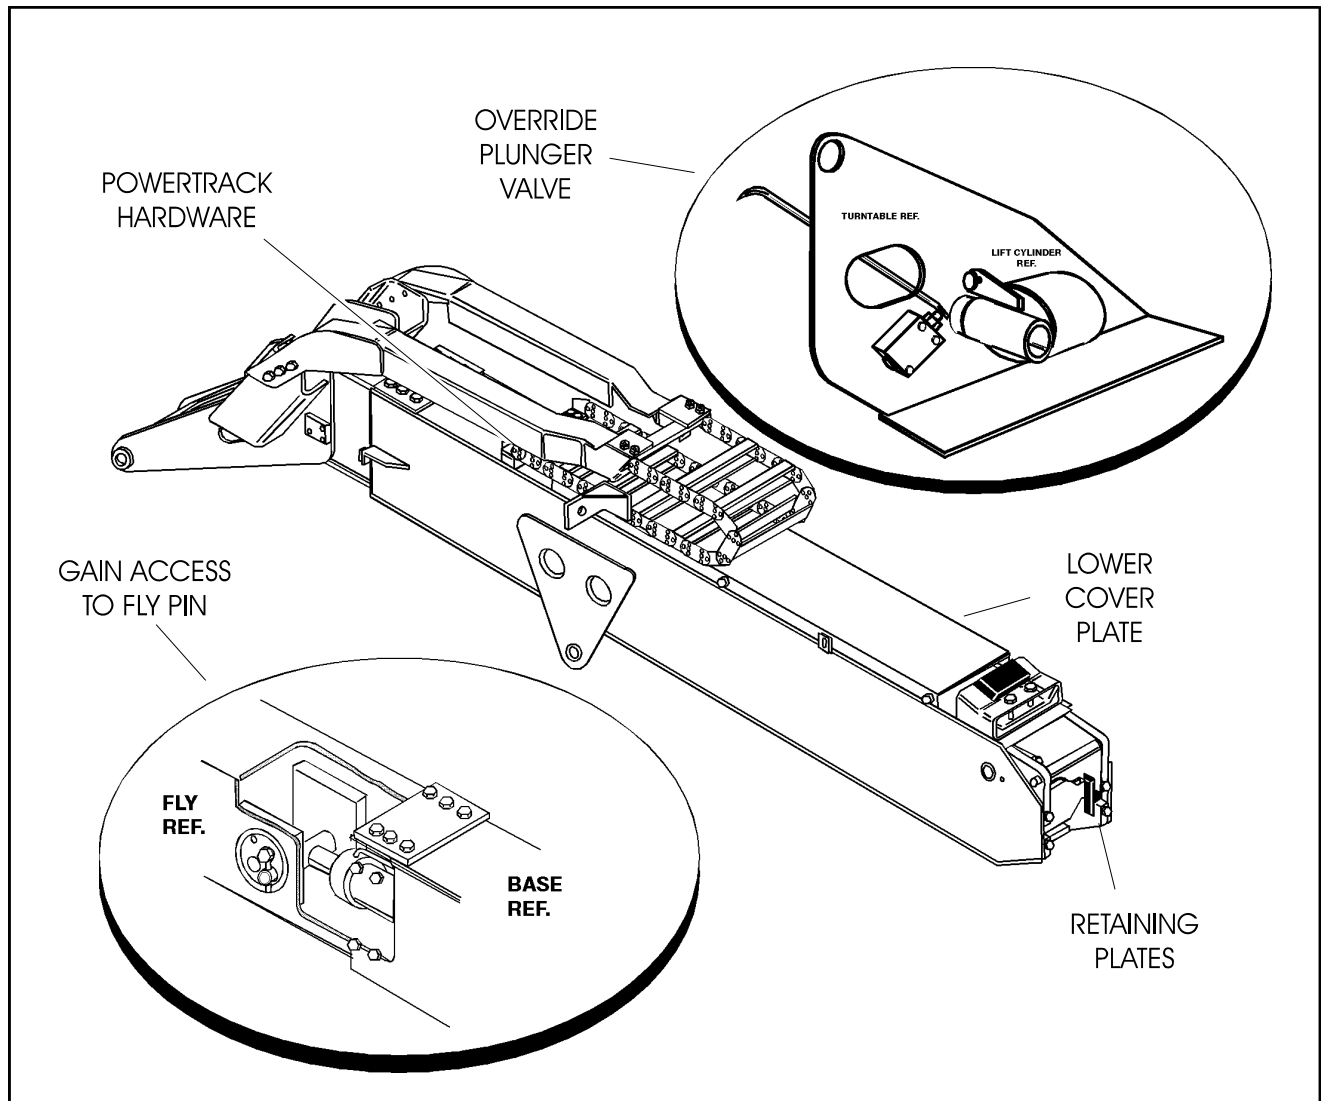

Figure 5-18. Tower Telescope Cylinder Removal
1. Place machine on a flat and level surface, with main boom in the horizontal position. Shut down engine and prop the boom See Figure 5-18., Tower Telescope Cylinder Removal.
1. With the boom positioned as in Figure 5-18., Tower Telescope Cylinder Removal, slide the telescope cylinder into the boom, aligning the cylinder port block end with slotted holes in Base Boom. Secure telescope cylinder with mounting hardware.